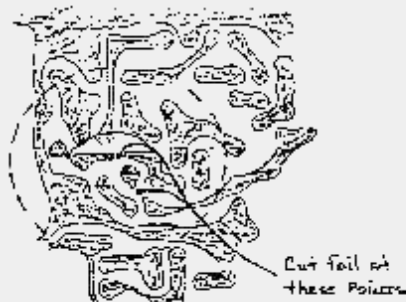

FIGURE 1
8. Using a small craft knife, cut the foil at the 3 points shown in figure 1. (top right corner of the board).